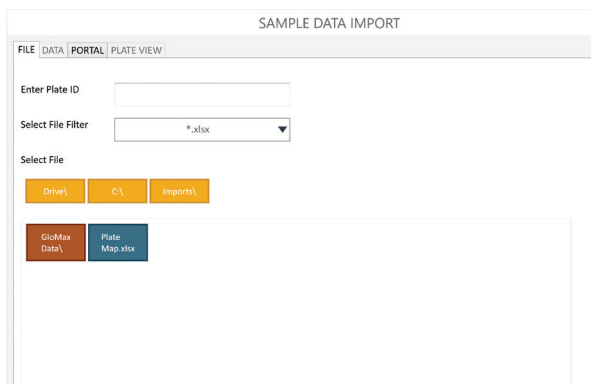

Figure 43. ‘Sample Data Import’ screen. First screen shown when importing a plate map into the GloMax® Software.
3. Tap the **Import** button located on the right side of the 'Protocol-specific' screen (Figure 42) to display the 'Sample Data Import' screen (Figure 43).